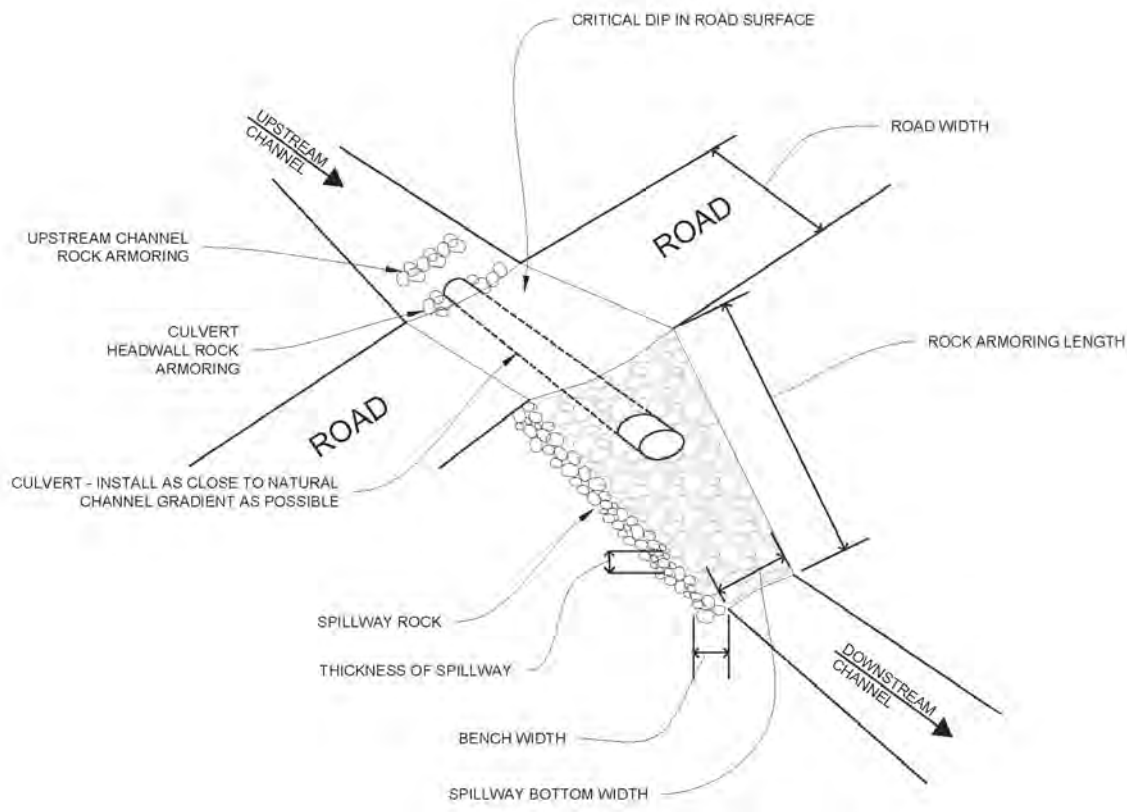

Figure 6. Culvert installation schematic.
- Remove existing culvert (if applicable) and excavate a trench at the original channel gradient to place the culvert. Note that on steep channels (as seen on this project), culverts may be installed at a more gentle slope with extensive rock armoring placed under the outlet for channel armoring and energy dissipation as shown in Figure 6.
- Place final rock armoring around culvert outlet, culvert inlet, and upstream channel as described in Figure 6 and any available site-specific specifications. A critical dip will be constructed over new fill or at a location identified in attached designs. The dip will be constructed of rock armoring that extends from the top of the culvert to the road surface.